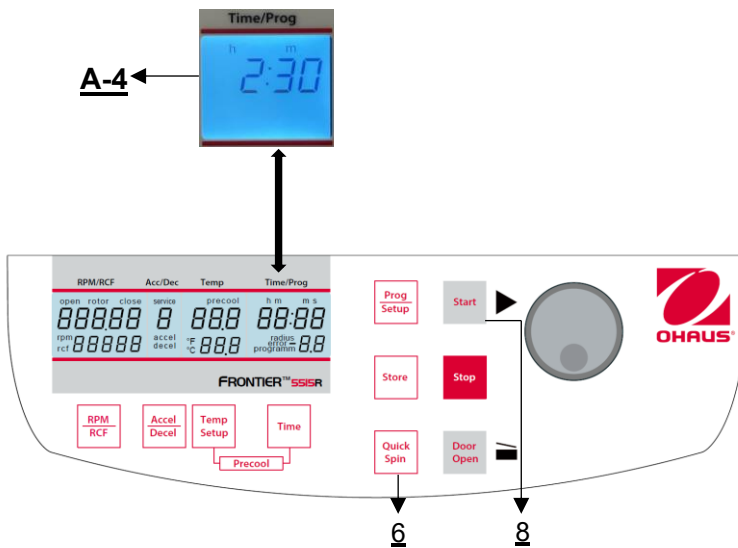

Figure 26
You can start the centrifuge either with the "**Start**" key (8) or the "**Quick Spin**" key (6) (see **Figure 26**). By the "**Start**" key (8) you can start stored runs or runs with manually pre-selected parameters. When the respective pre-selected running time has ended the centrifuge will stop automatically. By the "**Quick Spin**" key (6) you can start runs, which will last just a few seconds.